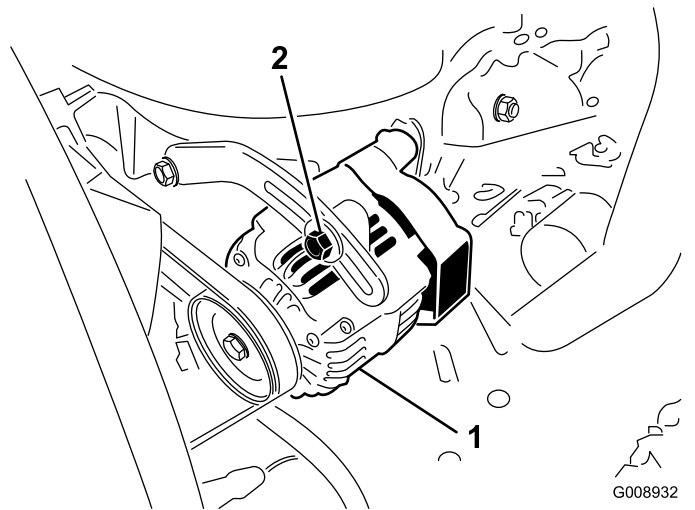

Figure 64
2. If the deflection is not 10 mm (3/8 inch), loosen the alternator mounting bolts (Figure 64).